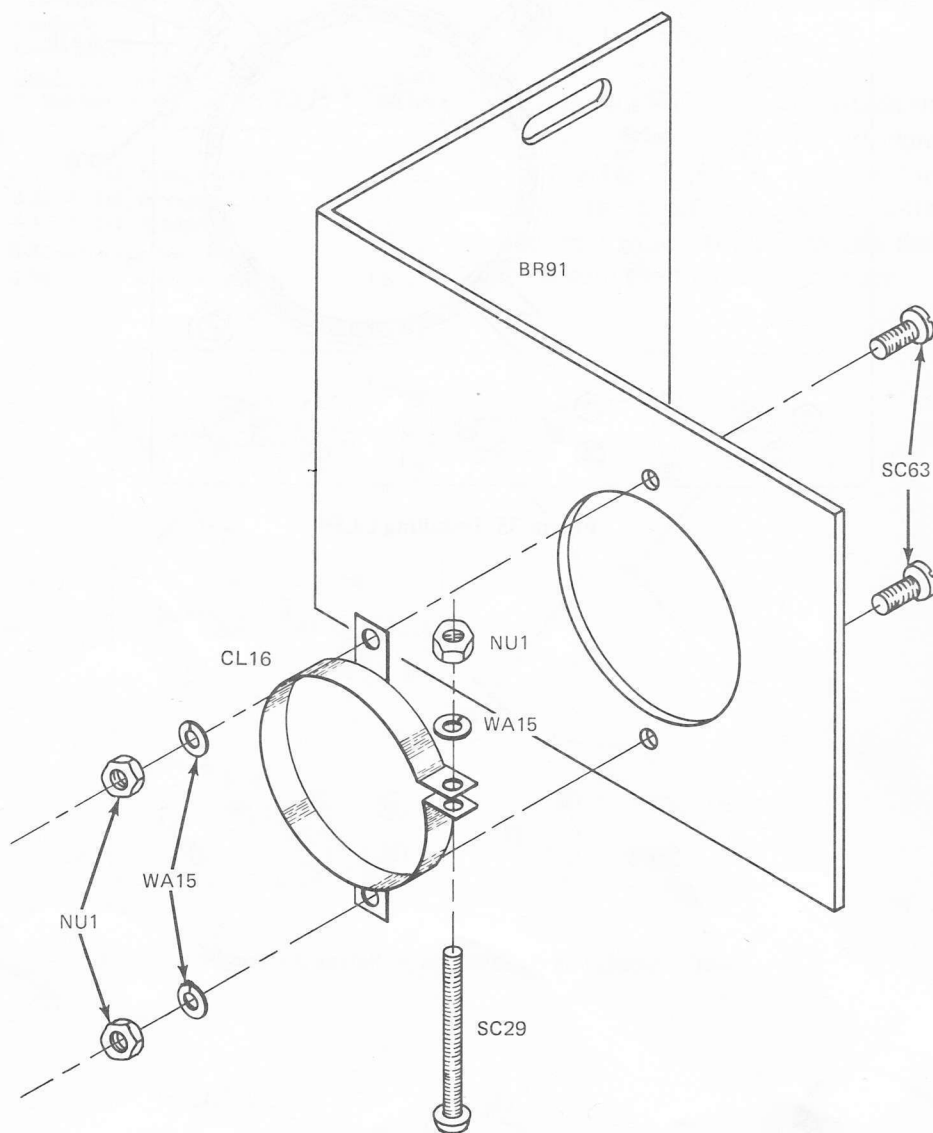

Figure 36. Installing the crt clamp (back).
(4) Install the crt clamp (CL16) on the crt support bracket (BR91) using the hardware shown in Fig.36. Do not tighten the nut on SC29 at this time. You will tighten this nut after you install the crt . ()